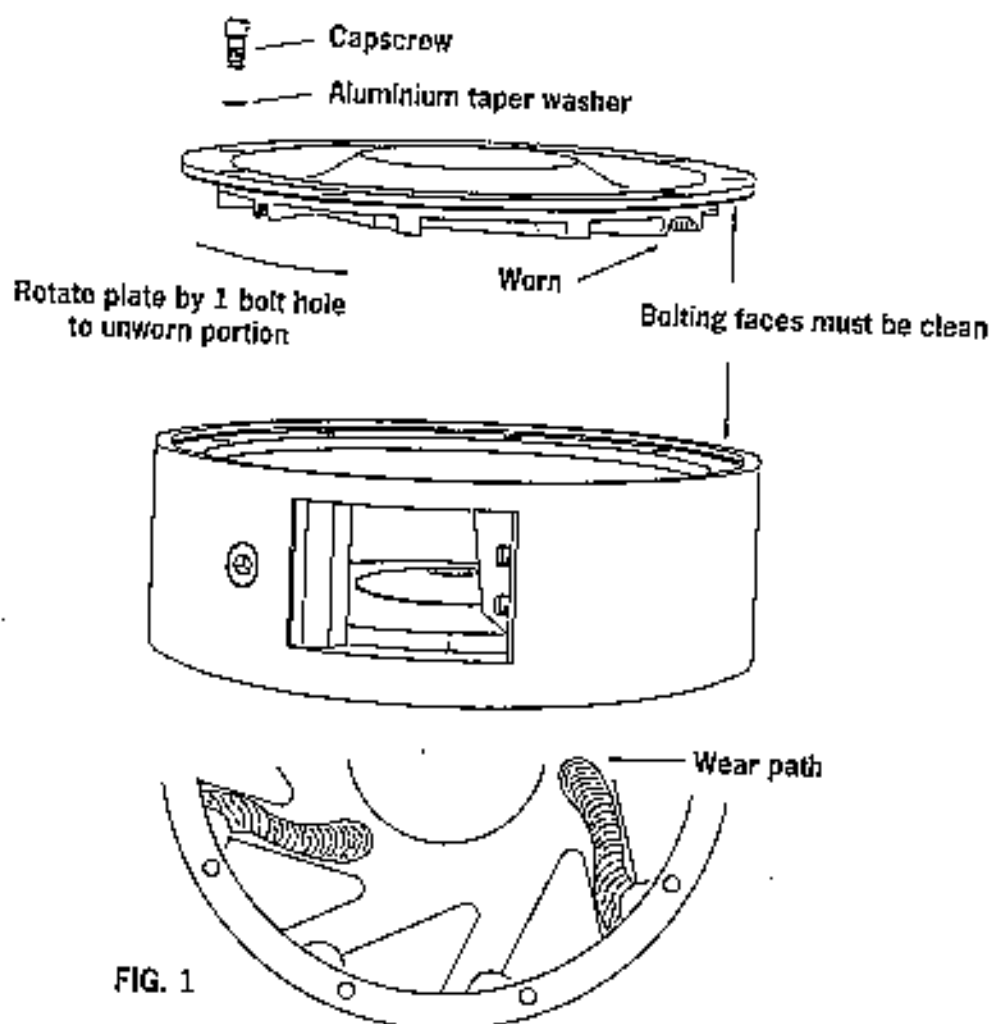

FIG. 1
3. Check the wear paths on the underside of the wear plate (fig. 1), they should be of even width, depth and position. If so, plate can be re-fitted. Uneven wear paths are caused by uneven trail plates. These should be checked. See rotor tuning 6-28.